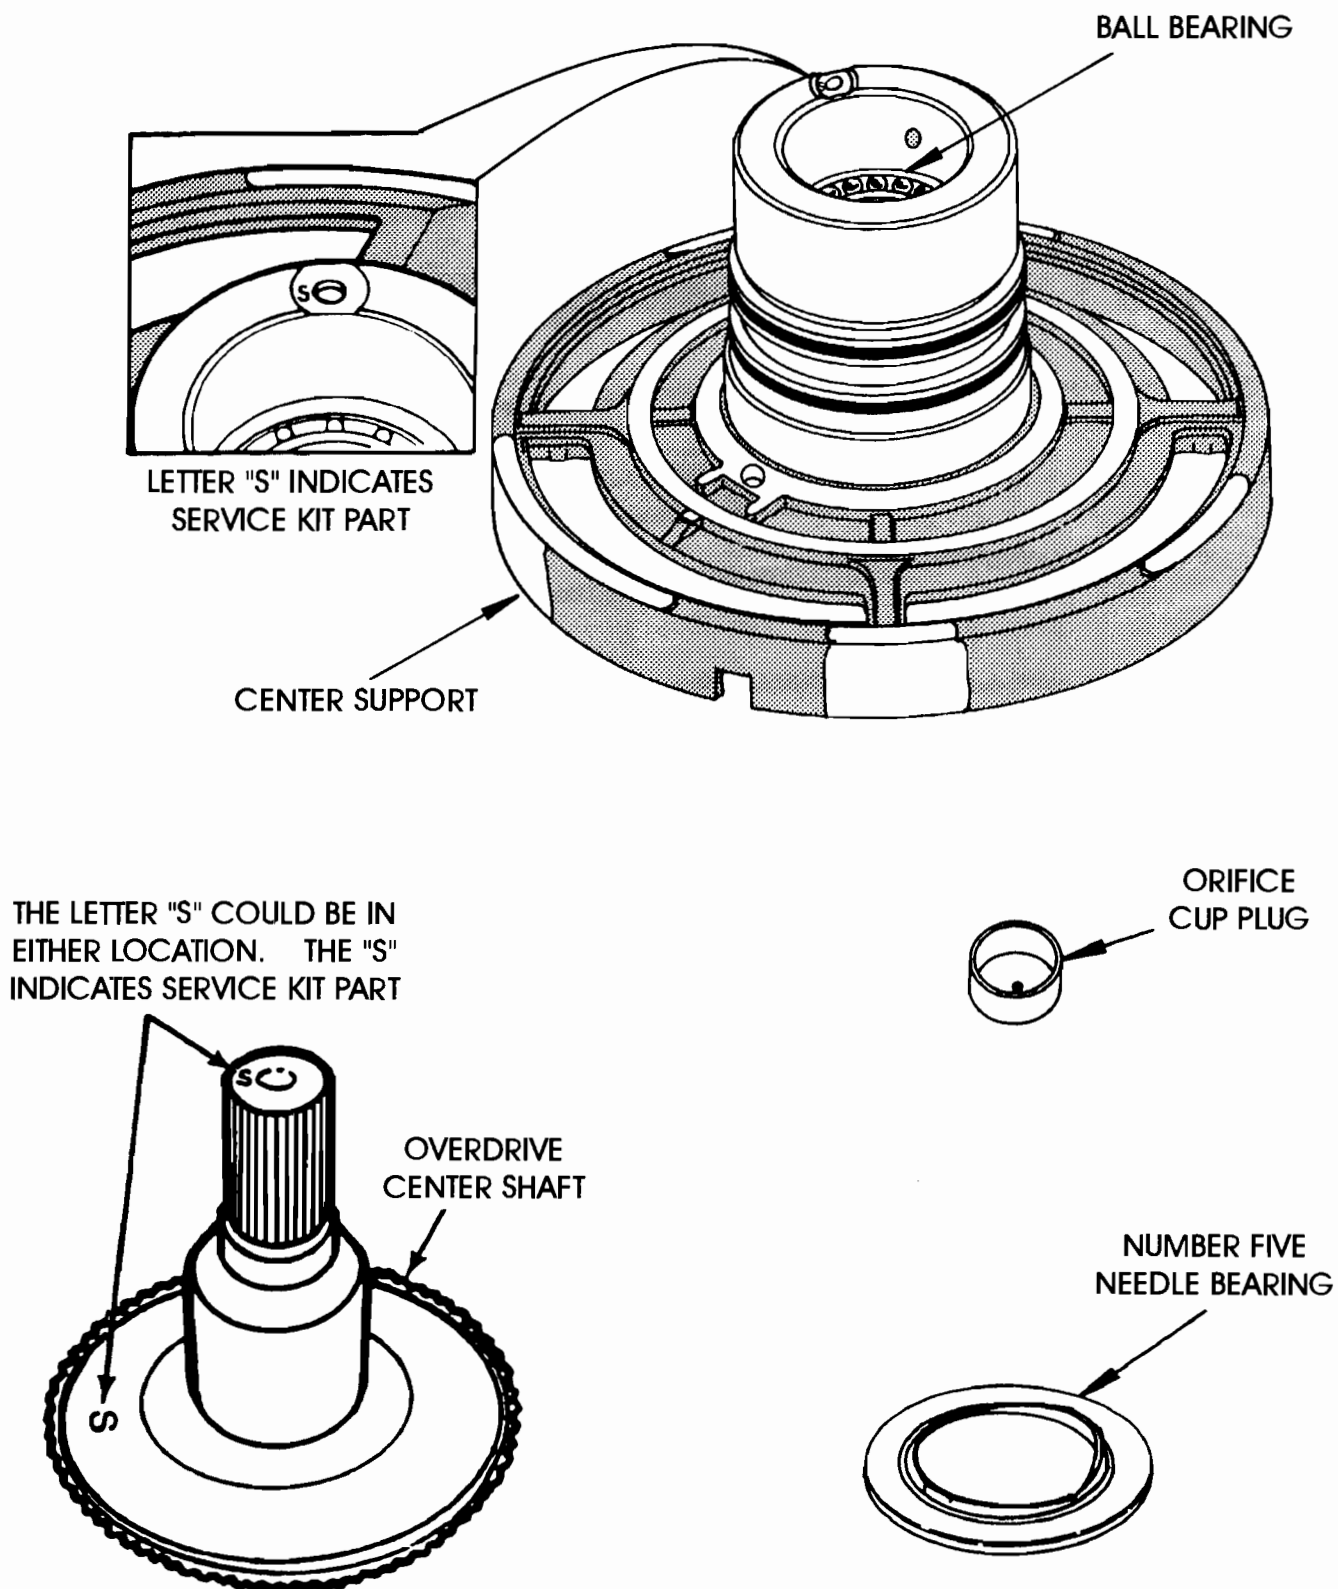

Figure 2
**CHANGE:** There is now available, from Ford Motor Co, a new design center support service kit with a ball bearing in the support. The new design service package is available under OEM part number F4TZ-7A130-B, and will back service all past model 89-94 E4OD transmissions only. The parts in this service kit are different dimensions than 1995 model year production parts. Refer to Figure 2 for service package kit contents.